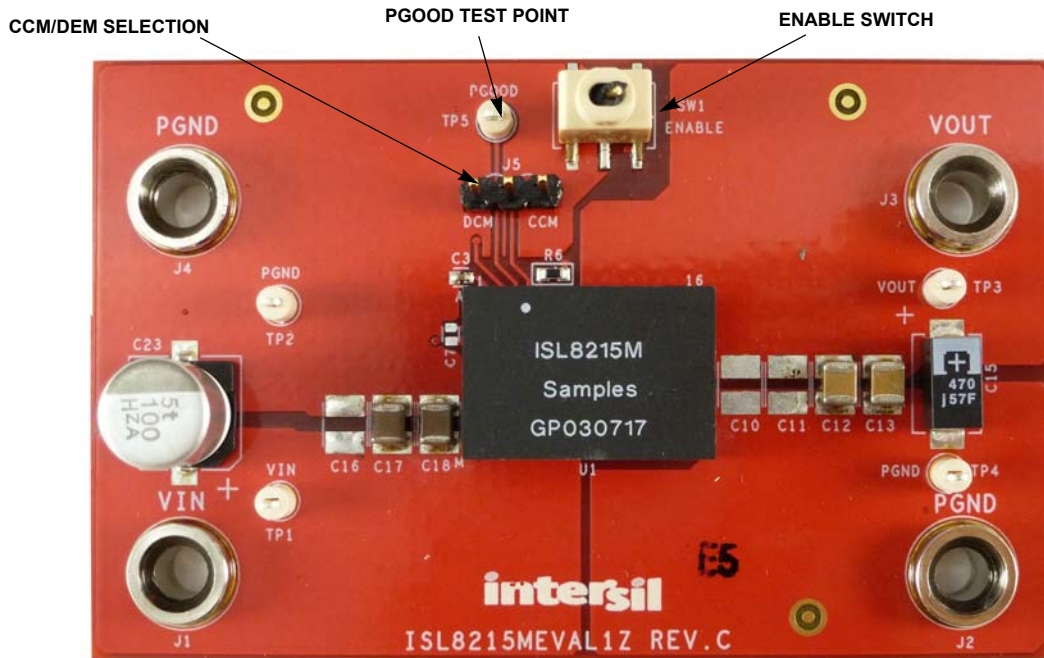
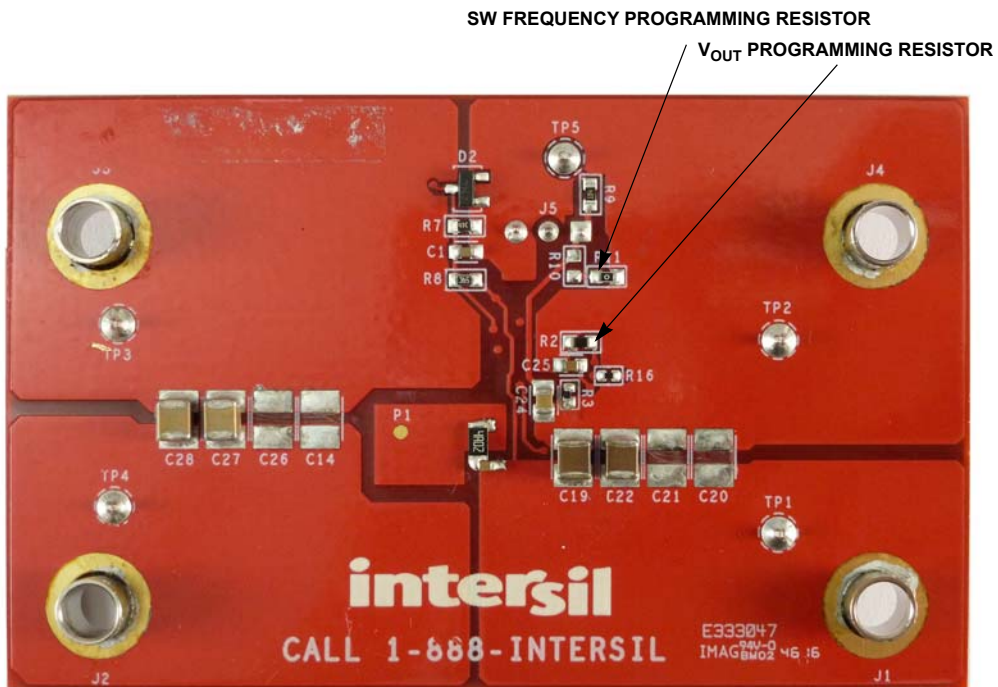

Figure 2. Top of Board
Figure 3. Bottom of Board
The ISL8215MEVAL1Z provides the peripheral circuitry to evaluate the feature set of the ISL8215M. The evaluation board is designed with mechanical switches for ENABLE, several connectors, test points, and jumpers, which makes validation of the module easy. The converter can be enabled and disabled by toggling the ENABLE switch as shown in Figure 2 on page 6. Connecting a jumper across the pins as shown in Figure 2 enables the PSM/DEM mode of operation, which can lead to higher efficiencies at light loads. Selecting features like external frequency synchronization can be performed by hooking the signal generator (square pulse waveform clock signal) to the MOD/SYNC pin. The output voltage (0.6V - 12V) and the switching frequency (300kHz to 2MHz) can be programmed by changing the resistors as shown in Figure 3 on page 6.
- (1) Disable the module by toggling the ENABLE switch as shown in Figure 2 on page 6.
- (2) Use the appropriate cables to connect the DC input power supply to banana sockets J1 and J4 and the electronic load to sockets J3 and J2. Ensure that the polarity for the power leads is correct and the input voltage is within the operating range (7V - 42V) of the module. Use test points TP1 (VIN) and TP2 (PGND) for accurately measuring the input voltage.
- (3) Turn on the input power supply.
- (4) Turn the ENABLE switch to position “SW1 ENABLE” for enabling the module.
- (5) Probe test points TP3 (VOUT) and TP4 (PGND) to observe the output voltage. The output voltage should read 3.3V.
- (6) Adjust input voltage, V_{IN} , within the specified range and observe output voltage. The output voltage variation should be within $\pm 1.5\%$.
- (7) Adjust the load current to within the specified range (0 - 15A) and observe output voltage. The output voltage variation should be within $\pm 1.5\%$.
- (8) To change V_{OUT} , disconnect the evaluation board from the setup and populate a standard 0603 resistor at the R_2 placeholder location on the bottom layer. The “Output Voltage Resistor Settings” table in the ISL8215M datasheet can be used as a reference for programming different output voltages. Refer to the “ISL8215M Design Guide Matrix” table in the ISL8215M datasheet for correct input and output capacitors, switching frequency, and output voltage combinations.
- (9) The switching frequency can be modified by populating a standard 0603 resistor at the R_{11} placeholder location on the bottom layer. Refer to “Equation 2” in the ISL8215M datasheet for selecting the correct value of R_{11} within admissible operating range (300kHz - 2MHz).